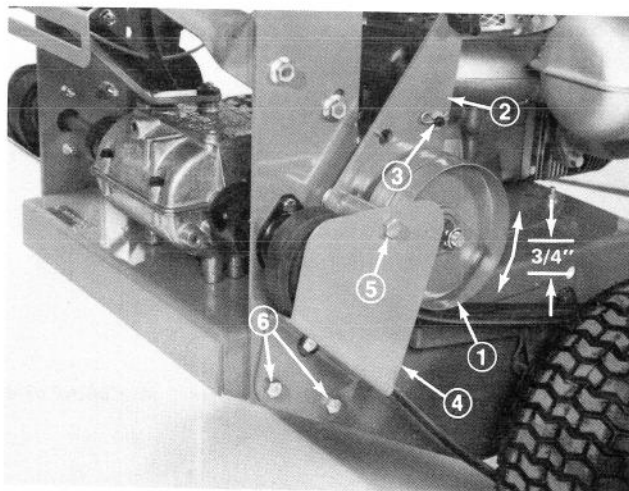

Figure 6
5. Check travel of idler pulleys when fully engaging wheel belts. Pulley travel should be approximately 3/4" (Fig. 6).